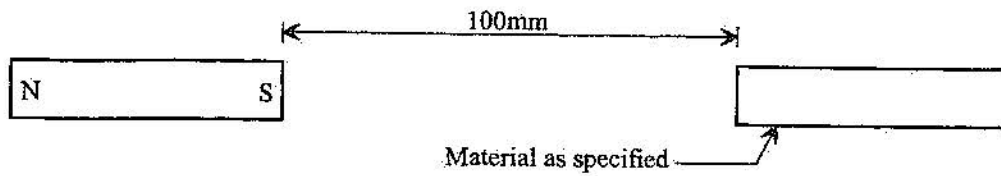

Figure 9
1. Place a rectangular bar magnet and a mild steel strip approximately 100mm apart on the bench as shown in figure 9.